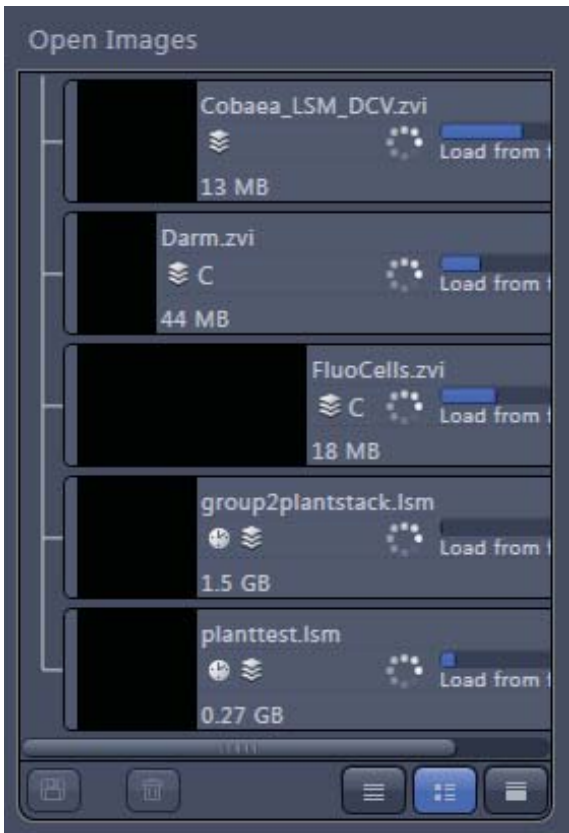

Fig. 4-263 Image progress bar
- A progress bar (Fig. 4-263) is shown for each image facilitating the overview if e.g. many processing function are running at the same time.